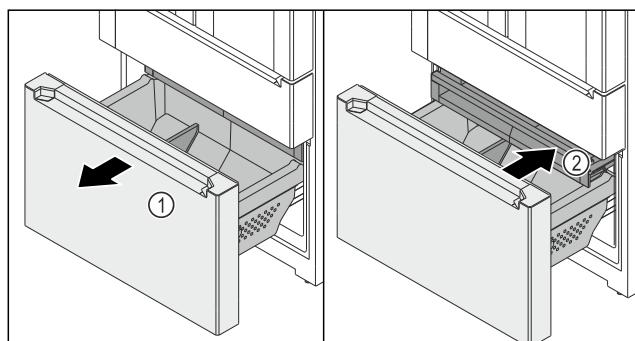

Fig. 152
- ▶ Pull the telescopic unit Fig. 152 (1) out as far as it will go.
- ▶ Drawer Fig. 152 (2) is automatically pulled out.
- ▶ Push in the drawer Fig. 152 (2).